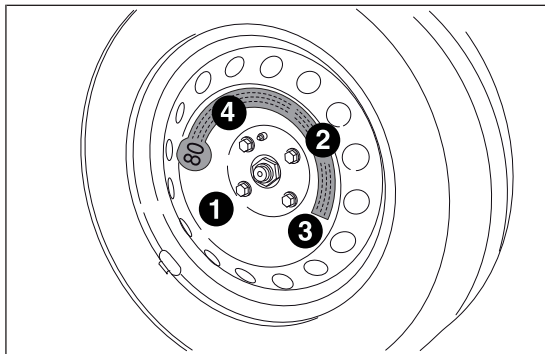

fig. 118
- ☐ use the wrench A provided to fully tighten the bolts in a criss-cross fashion as per the numerical sequence illustrated in fig. 118;